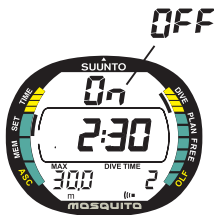
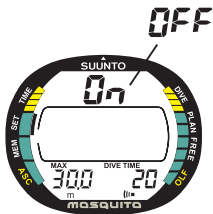

Fig. 4.11. Dive Time Alarm. Center window displays less than 5 minutes dive time.
Fig. 4.12. Dive Time Alarm. Display when more than 5 minutes dive time left.
2. Wait two seconds until the Dive Alarm Setting Mode activates automatically. The alarm status [On/OFF] starts to blink on the display (Fig. 4.11.).
6. While the dive time minutes are selected (blinking), press + or - to change the time. If the time is less than five (5) minutes, the dive time alarm seconds can also be set. This feature can be used for freediving (Fig. 4.11.). If the selected time is over 5 minutes no seconds are displayed (Fig. 4.12.).